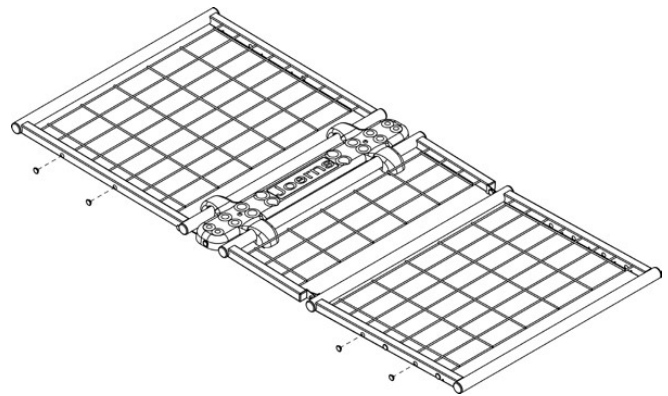
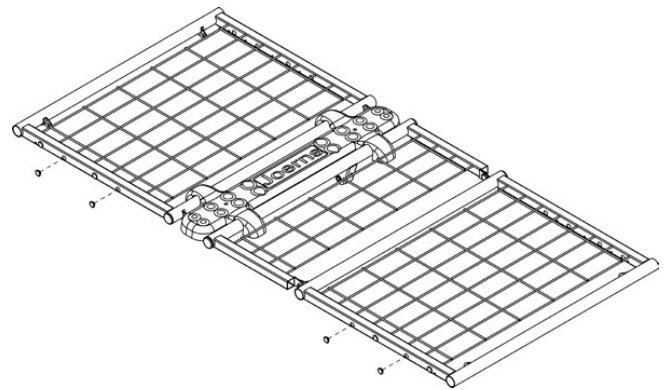

Figure 1
Figure 2
1. Remove plugs from holes as shown in Figure 1 for 80" bed and Figure 2 for 76" bed.